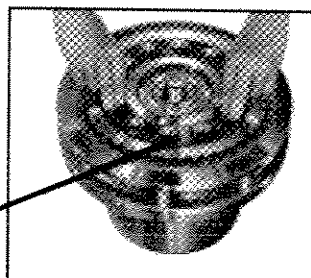

Fig. 14
7. The eccentric (3-04) can be removed from the high speed shaft (3-01) after taking out the retaining ring (3-10) and the inner bearing raceway (Fig. 14, 15).
5. Insert the other spacer and the inner bearing raceway. Secure them with the retaining ring (Fig. 14).